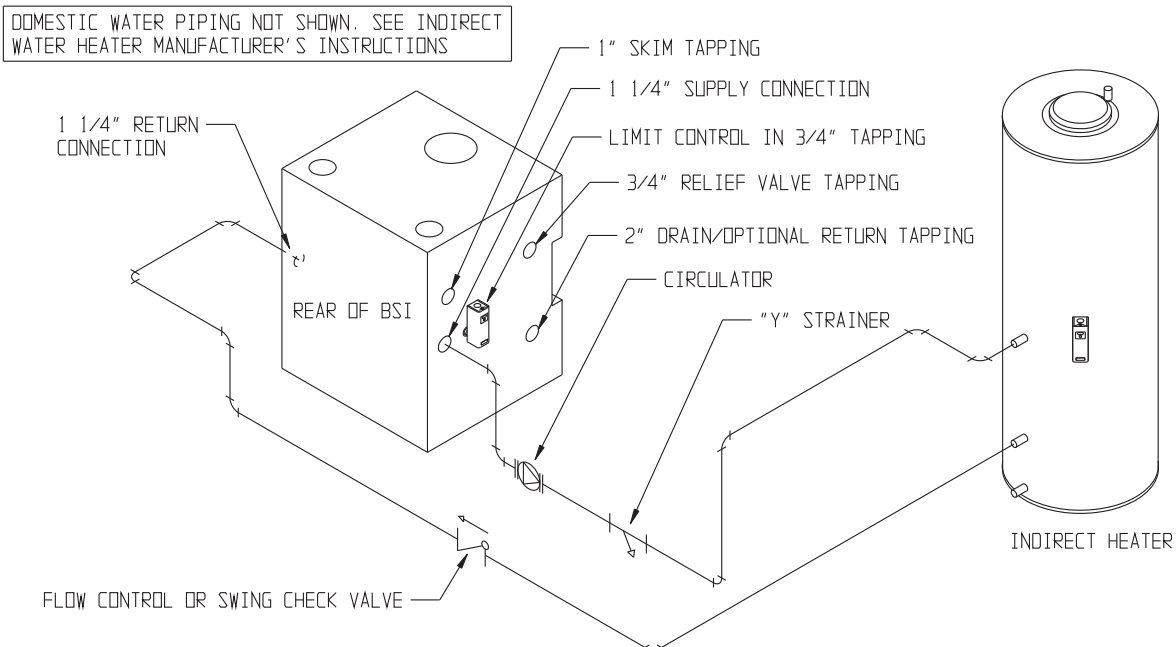

FIGURE 13: INDIRECT WATER HEATER BOILER-SIDE PIPING
- 1) Circulator - Mount the circulator as shown in Figure 13. The circulator should be located as low and as close to the boiler as practical. Do not install valves, or other devices having a significant pressure drop, between the boiler and the circulator inlet. All piping between the boiler and the circulator inlet should be 1", regardless of the size of the piping required in the rest of the system. See Figure 15 in Part X for wiring information.